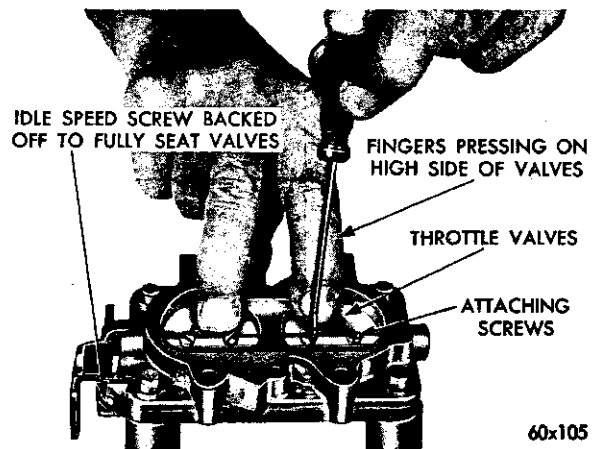

Fig. 27—Installing the Throttle Valves
(4) Slide the throttle shaft and lever out of the body.
(5) Install new throttle shaft and lever.
(6) Install throttle valves in their respective bores (with the valve number toward the manifold flange). Install new screws but do not tighten. Hold the valves in place, with the fingers pressing on the high sides of the valves, as shown in Figure 27. Tap the valves lightly with a screwdriver to seat in the throttle bores. Tighten the screws securely and stake by squeezing with pliers.
(7) Install the idle mixture screws and springs in the throttle body. (The tapered portion must be straight and smooth. If the tapered portion is grooved or ridged, new idle mixture screws should be installed to insure having correct idle mixture control.) **DO NOT USE A SCREWDRIVER.** Turn the screws lightly against their seats with the fingers. Back off one full turn for approximate adjustment.